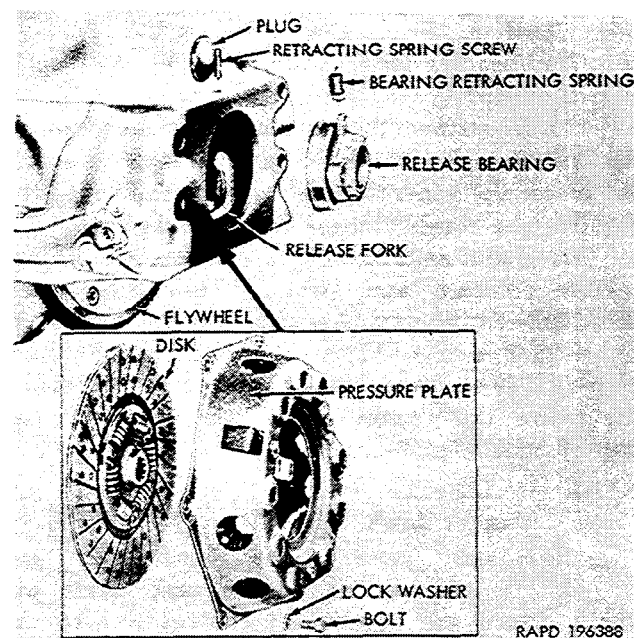

Figure 2-158. Clutch parts—exploded view.
The clutch (fig. 2-158) consists of the disk and pressure plate, clutch release bearing, and release fork which is actuated by the clutch pedal. The disk is splined to the transmission shaft and the pressure plate is bolted to the engine flywheel. Organizational maintenance of the clutch includes adjustment of the clutch pedal, replacement of the clutch pan and pan plate, and emergency replacement of the release bearing, disk, and pressure plate (para 2-139).
b. Remove Clutch Release Bearing (fig. 2-158).
(1) Remove the transmission (para 2-105 b).
(2) Detach the retracting spring from the release bearing and from the retracting spring screw, and remove the spring through the transmission shaft opening in the clutch housing.
(3) Disengage the release bearing from the fork, and remove the bearing through the transmission shaft opening.
(4) Remove the retracting spring screw if it must be replaced.
d. *Install Clutch Release Bearing (fig. 2-158).*
(1) If the retracting spring screw was removed, install the screw in the clutch housing.
(2) Install the release bearing in front of the bearing fork, with the larger diameter of the bearing sleeve toward the front and the retracting spring hole at the top.
(1) Position the disk and the pressure plate (fig. 2-158) on the flywheel. Install the six special bolts and lockwashers. Do not tighten the bolts until all are installed and the clutch parts are alined ((2) below).